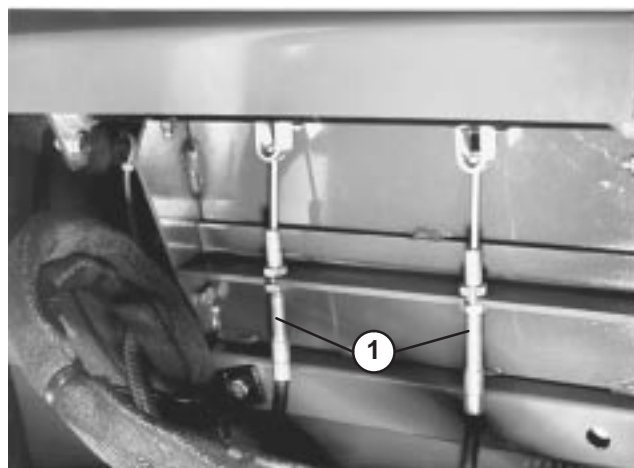

Figure 66
2. To reduce free travel of brake pedals, tighten the brakes by loosening the front nut on threaded end of brake cable (Fig. 66). Then tighten rear nut to move cable backward until brake pedals have 1/2 to 1 inch of free travel. Tighten front nuts after brakes are adjusted correctly.